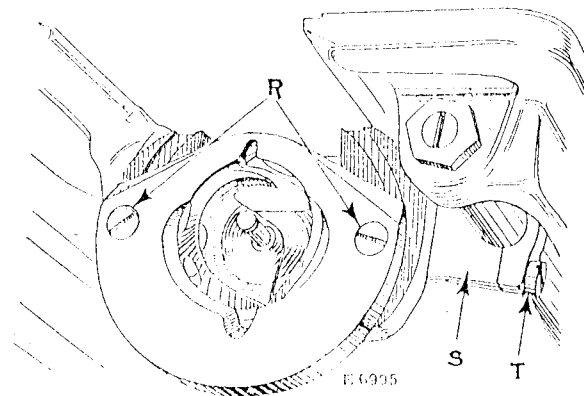

FIG. 20. ADJUSTMENT FOR RAISING AND LOWERING THE FEED DOG
Take out the two screws (R, Fig. 20) which hold the shuttle race in position and remove the shuttle race. Then remove the shuttle from the shuttle race.
The feed lifting rock shaft crank (S, Fig. 20) should be set so that when it raises the feed bar to its highest point, slightly less
than the full depth of the teeth project through the slots in the throat plate. To raise or lower the feed dog, loosen the clamping screw (T, Fig. 20) and move the feed lifting rock shaft crank (S) until the feed dog is set at the required height, then securely tighten the clamping screw (T).